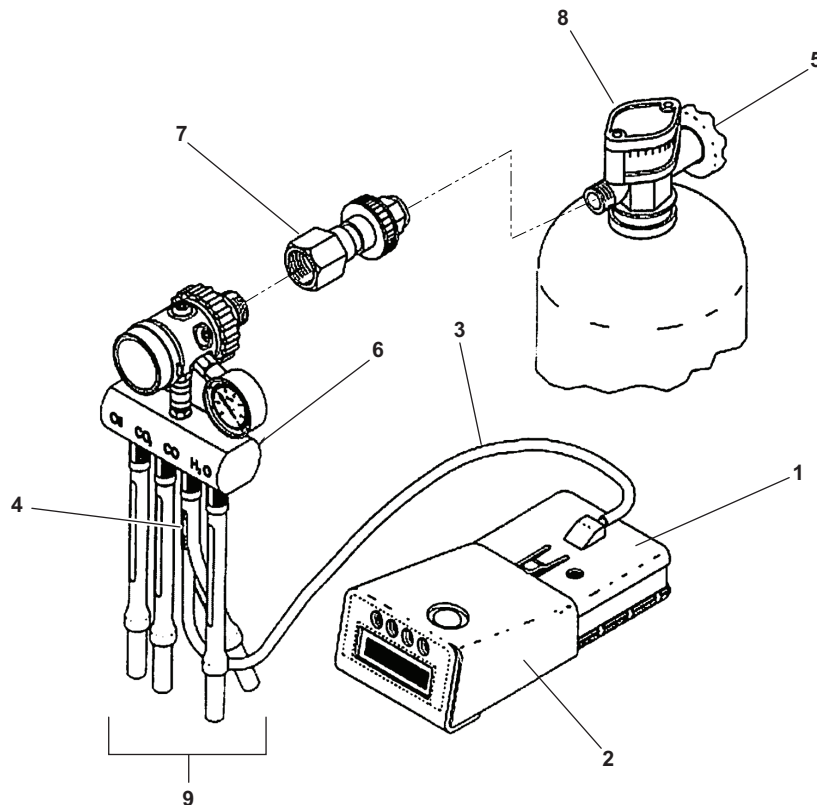

Figure 6-61. Four-Gas Analyzer Connection
- (23) Remove the slip on adapter (figure 6-61, item 1) from the four-gas analyzer (figure 6-61, item 2). Install a short length of sample tubing (figure 6-61, item 3) on the barbed fitting (figure 6-61, item 4) and the slip on adapter.
- (25) CLOSE the SCBA cylinder valve (figure 6-61, item 5) and remove the sample tubing (figure 6-61, item 3) from the barbed fitting (figure 6-61, item 4) in the measuring device (figure 6-61, item 6), and the slip on adapter (figure 6-61, item 1).
- (26) Remove the adapter (figure 6-61, item 7) from the SCBA cylinder (figure 6-61, item 8).
- (27) Rinse the outlet end of each tube holder (figure 6-61, item 9) using a bucket with clean freshwater. Allow the freshwater to cycle through the hand pump several times with the discharge aimed at the bucket.
- (28) Dry all air test components thoroughly prior to stowage.
- (29) Record the results of the breathing air test in DA Form 4993 Harbor Boat Engine Department Log for Class A and C-1 Vessels, DA Form 4640 Harbor Boat Deck Department Log for Class A & B Vessels and/or using the Breathing Air Quality log sheet. Refer to table 6-3.